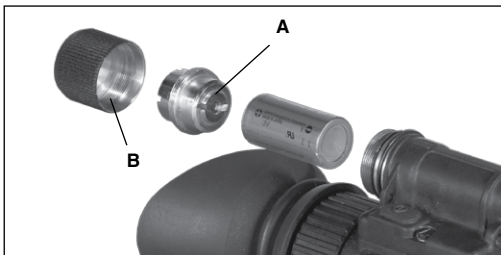

FIGURE 4.1. CR123A BATTERY INSTALLATION
With the battery adapter (A) screwed in as shown on Figure 4.1 you may use one CR123A 3V lithium battery.